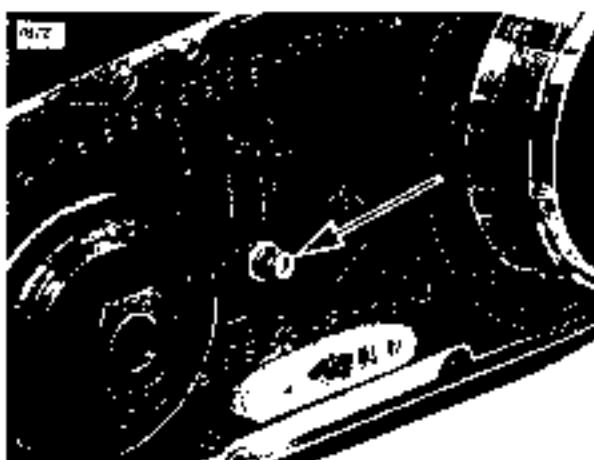

Figure 6-6. Chain Tensioner Top Center Nut
2. See Figure 6-6. Loosen top center nut from chain tensioner.
1. See Figure 6-6. Loosely install chain tensioner and top center nut to fasten chain tensioner assembly on in captured bolt inside of primary chaincase. Verify chain tensioner shank is resting on bottom lip of primary chaincase.